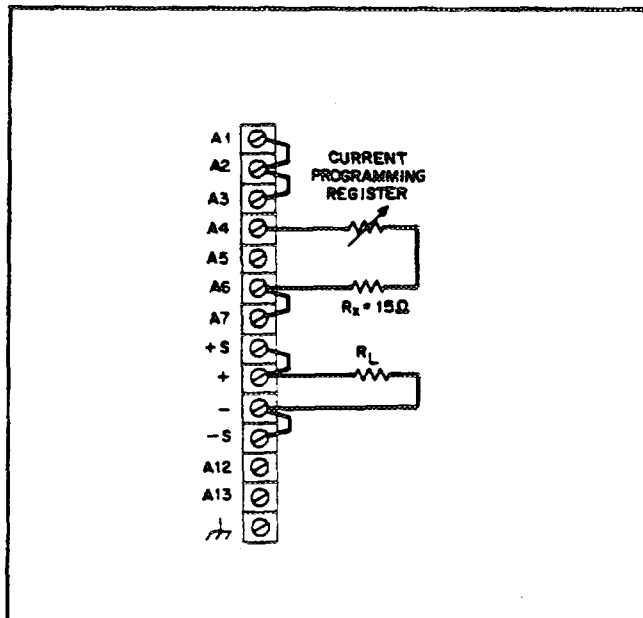

Figure 3-8. Resistance Programming of Output Current
**3-44 Constant Current Output, Resistance Control.** The rear panel connections shown in Figure 3-8 allow the output current to be varied by using an external resistor to program the supply. The supply's constant current programming current, which is factory adjusted to  $500\mu\text{A} \pm 7\%$  determines the exact value of its programming coefficient of 100 ohms per Ampere. If the 7% accuracy of this coefficient is not adequate, it may be adjusted to within 0.5% with internal potentiometer A1R1 (refer to Section V).
**3-45 Resistor  $R_X$**  (15 ohms) replaces internal resistor A1R3 which is disconnected, along with the front panel current control, by the connections of Figure 3-8. This resistor provides a small amount of end resistance so that the output current can be adjusted to exactly zero (by A1R6) when the current programming resistor is shorted, or set to minimum. Section V gives the adjustment procedure for zeroing the output current using the internal offset adjust potentiometer, A1R6.